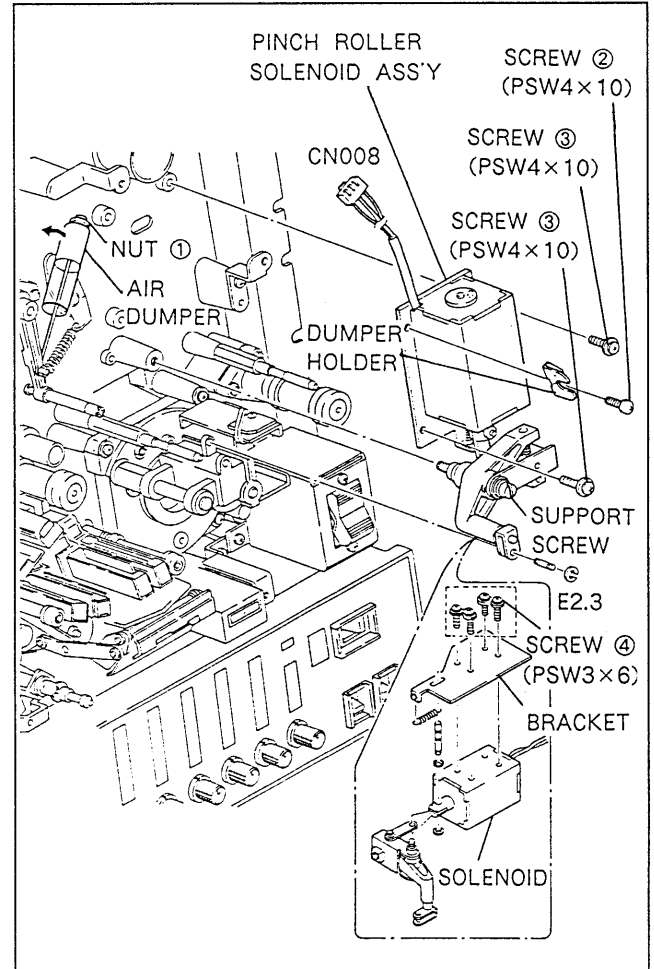

Fig. 6-12-1. Pinch Roller Solenoid Replacement
2. Loosen the nut ① and remove the air damper from the damper holder.
3. Remove the screw ② which secures the damper holder.
4. Remove the E-ring and two screws ③ shown in Fig. 6-12-1. Then rotate the support screw and remove the pinch roller solenoid assembly.
5. Replace the solenoid with a new one and re-assemble. Secure the solenoid loosely to the bracket with four screws ④ so that it can still be moved by hand.